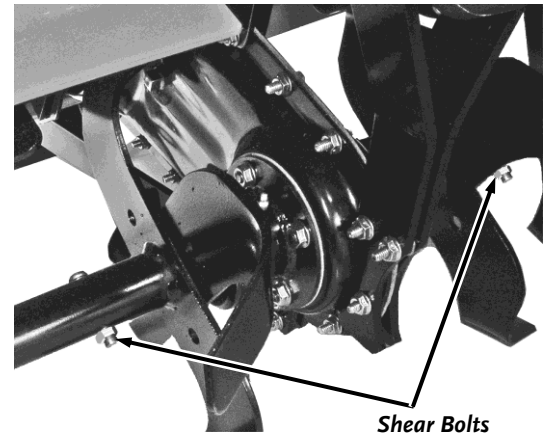

Figure 22
- The DR TOW-BEHIND ROTOTILLER drive components are protected from damage by Shear Bolts in the Tine Assemblies (**Figure 22**). The Shear Bolts hold the Tine Assemblies in proper location on the Drive Axles. Should a Tine Assembly strike or pick up a large hidden object and jam, the Shear Bolt holding the Tine Assembly to the drive shaft will shear or break, protecting the drive components of the DR TOW-BEHIND ROTOTILLER from major damage.